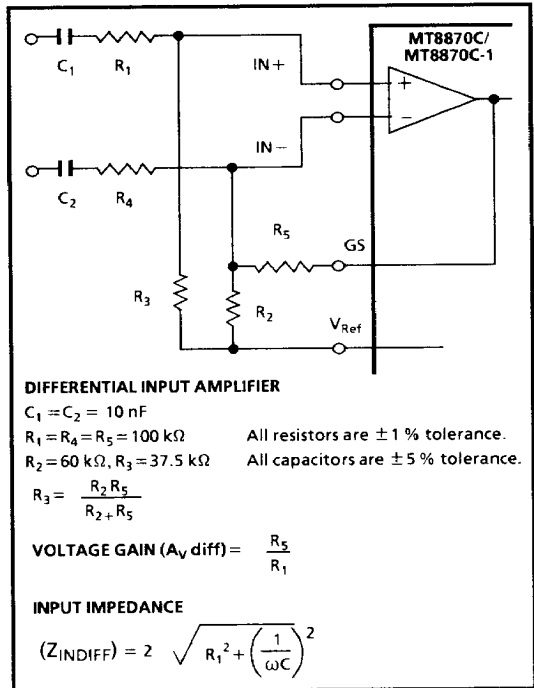

Figure 7- Differential Input Configuration
The input arrangement of the MT8870C/MT8870C-1 provides a differential-input operational amplifier as well as a bias source (V_{REF}) which is used to bias the inputs at mid-rail. Provision is made for connection of a feedback resistor to the op-amp output (GS) for adjustment of gain. In a single-ended configuration, the input pins are connected as shown in Figure 2 with the op-amp connected for unity gain and V_{REF} biasing the input at $\frac{1}{2}V_{DD}$. Figure 7 shows the differential configuration, which permits the adjustment of gain with the feedback resistor R_5 .